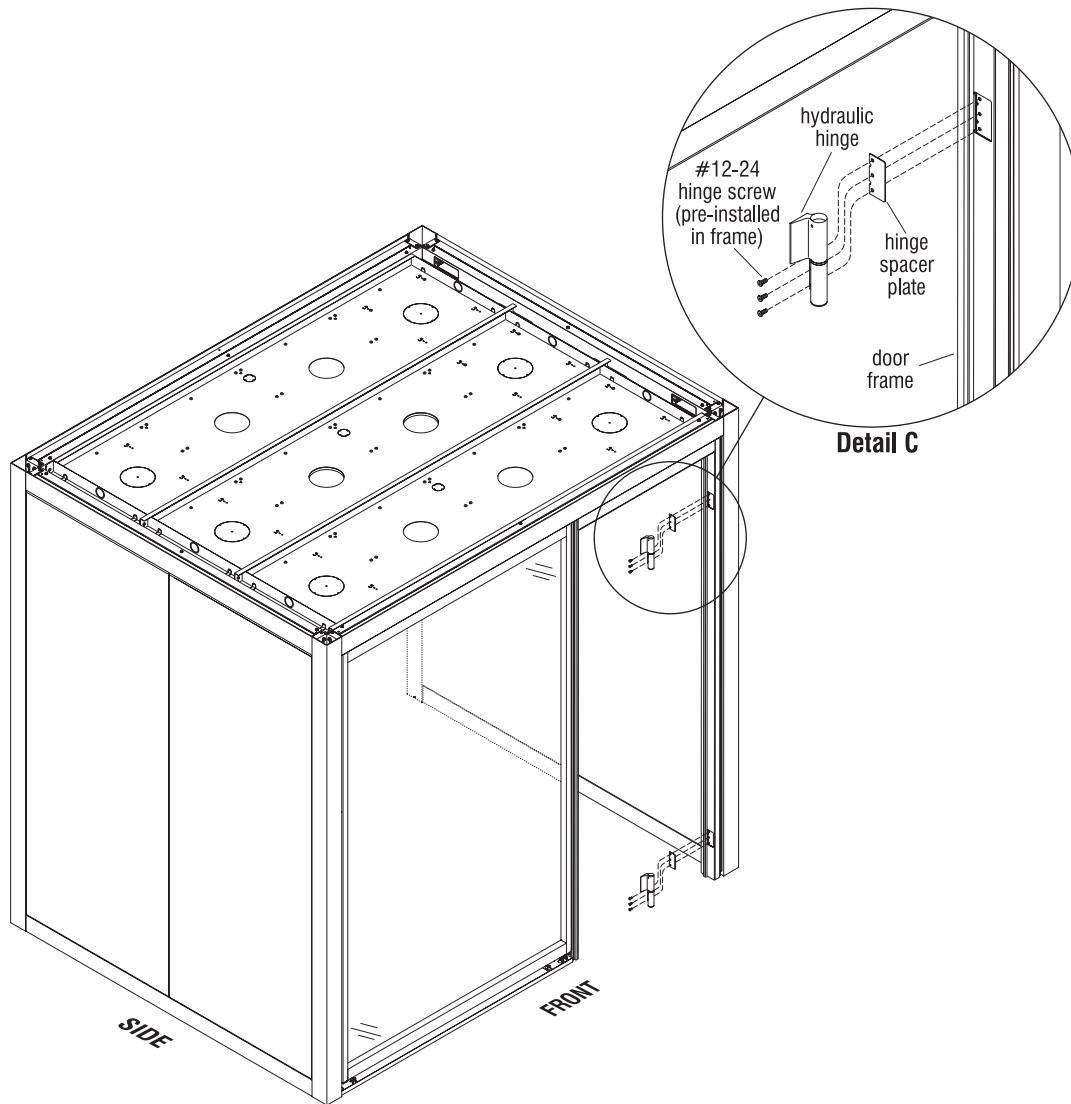

Figure 8
14. Begin door leaf to door frame installation by first removing the #12-24 hinge screws which come pre installed into the door frame. Next, follow the hinge manufacturer's instructions included to install the hydraulic hinge over a hinge spacer using the #12-24 hinge screws provided into the pre-drilled screw holes in the door frame (Figure 8 & Detail C).